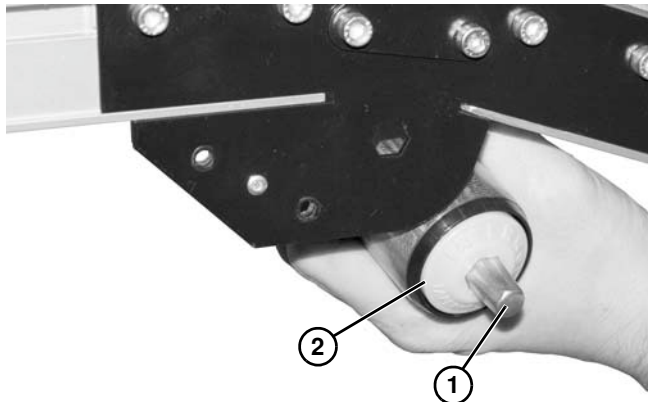

Figure 64
- b. For 5" (127 mm) or wider conveyor, push spring-loaded shaft ends (**Figure 64, item 1**) inward. Remove roller (**Figure 64, item 2**).